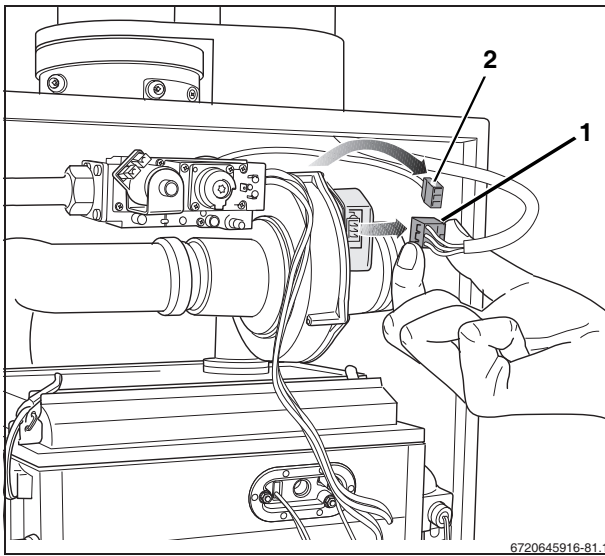

Fig. 80 Removing the connectors from the fan
- Pull the mains connector (fig. 80, [1]) from the fan.
- Pull the connector of the harness (fig. 80, [2]) from the fan while pushing on the connector lock to loosen it.